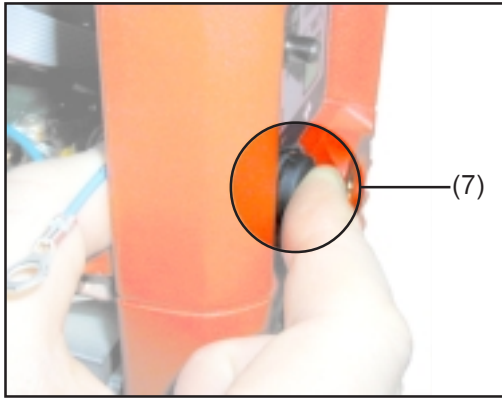

Fig. 21
- TP 1500 RC / 1500 TIG: Apply a thin film of lubricant to the seal (7) for the remote-control unit connection socket (Fig.21)
- TP 1500 RC / 1500 TIG: Gently press the seal (7) for the remote-control unit connection socket, to prevent it being forced out when the FPA15 board is pushed into place
- To begin with, snap the FPA15 (5) into place on the rear alignment pin